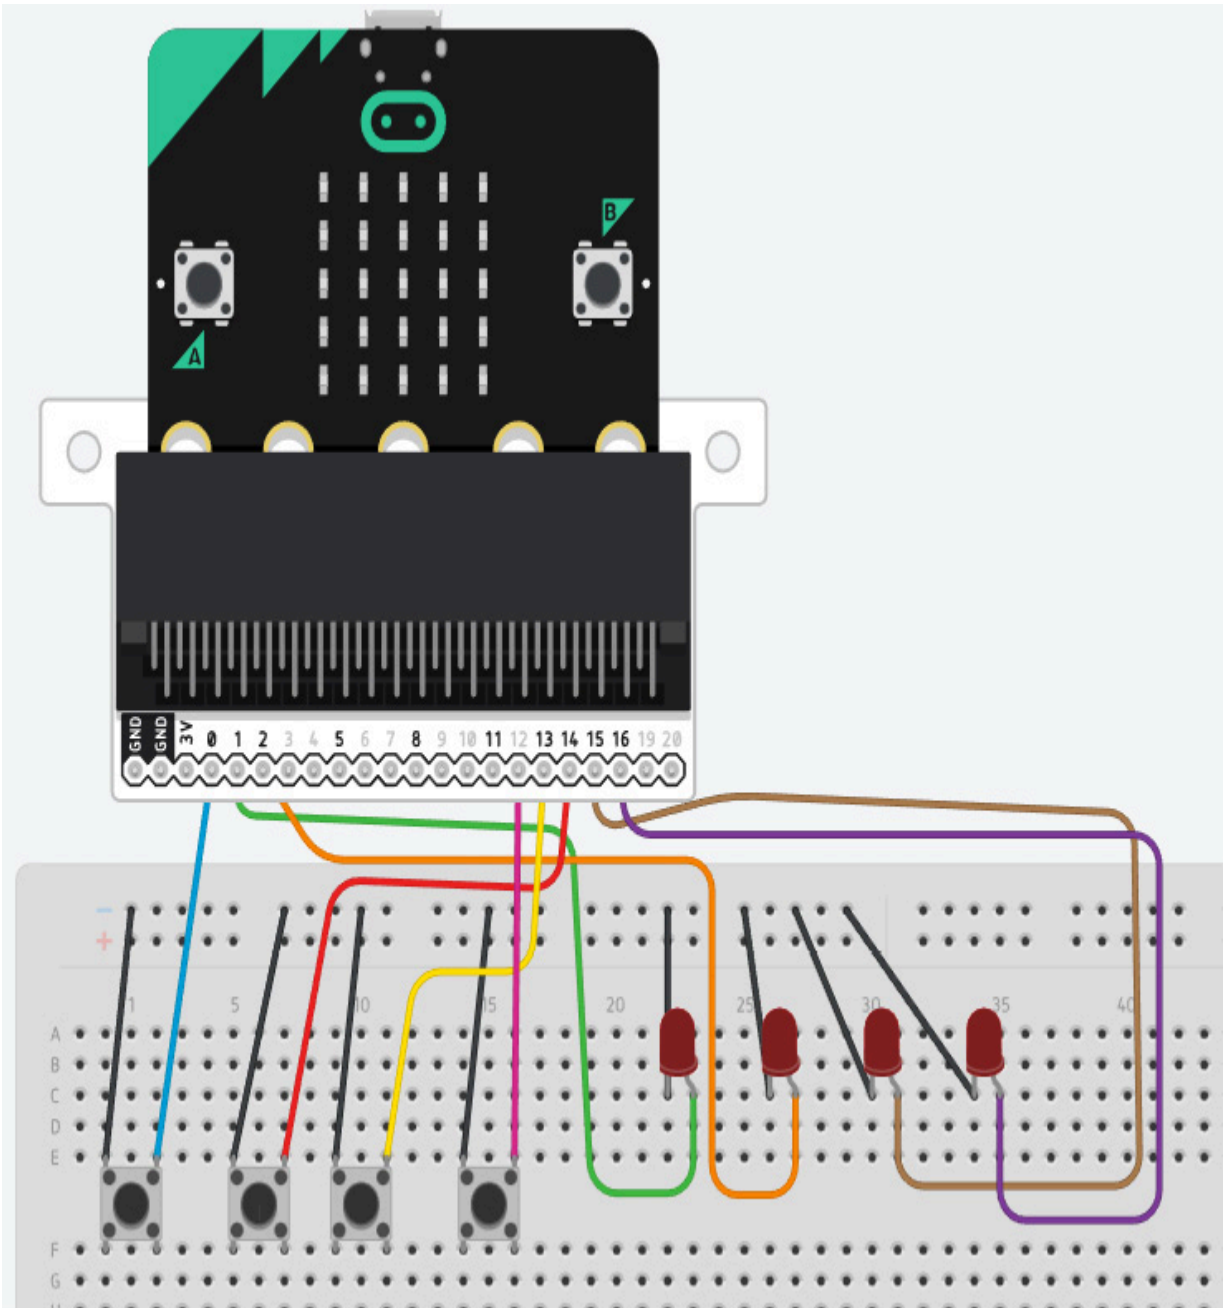

Figure 7.6 – Controlling multiple switches and LEDs connected to the Micro:bit
*Figure 7.6* shows the switches are connected to pins 0, 12, 13, and 14, whereas the LEDs are connected to pins 1, 2, 15, and 16. Keep in mind that all the devices have a common ground connection.